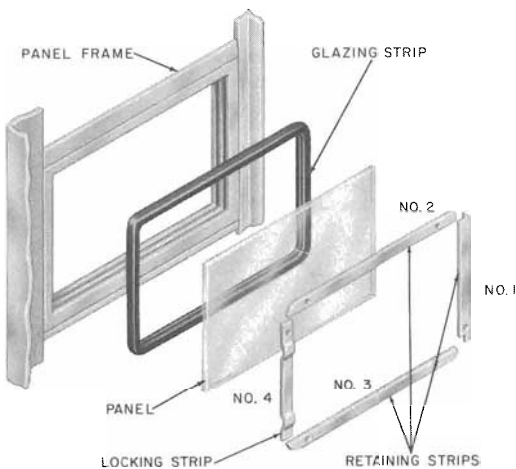

Fig. 23—Assembly of Side or Rear Panels
- 4.10** Booth panels and signs are held in place by four interlocking retaining strips. They are inserted in sequence as shown in Fig. 23. The No. 4 strip is rippled and is held in place by interface friction.
- (2) Remove retaining strips No. 2 and No. 3.
- (3) Remove retaining strip No. 1.
- (4) Remove panel and rubber glazing strip.
- (5) Apply rubber glazing strip to replacement panel.
- (6) Insert panel into frame with the beaded edge of retaining strip on the outside.
- (7) Replace retaining strips in sequence as shown in Fig. 23.
4.15 The side and rear signs are removed in the same manner as the side panels (Fig. 23).
**4.45** Replace glass panels in same manner as side panels (Fig. 23).